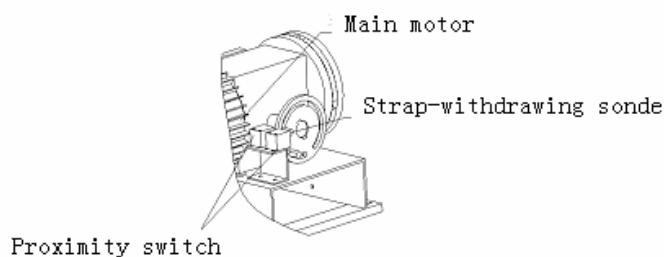

Fig 2-17
- ② When the two proximity switches induce strap-withdrawing sonde shown as Fig 2-17, main motor stops running , strap-withdrawing motor starts, the machine starts withdrawing strap.